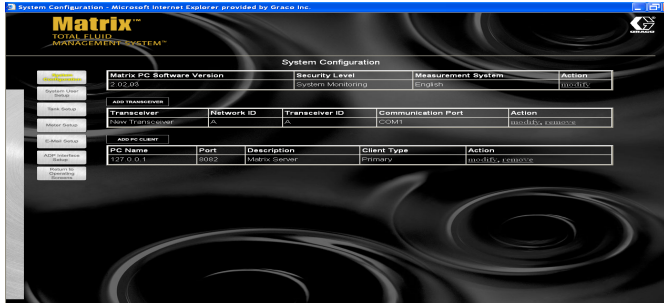
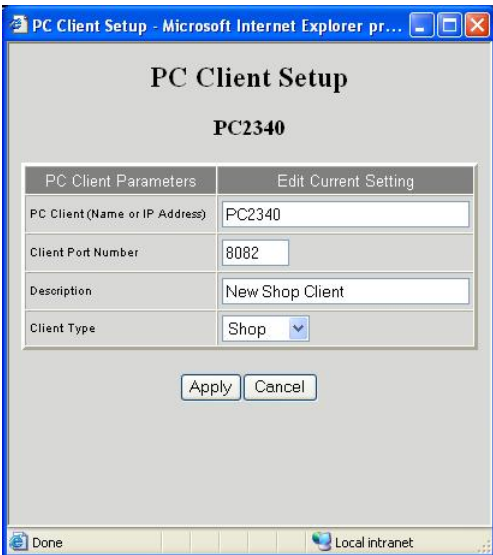

FIG. 37
FIG. 38
2. The host names configured at each PC are unique names and the name of the PC must be entered in the system configuration screen as entered at each PC. See FIG. 37 and FIG. 38.